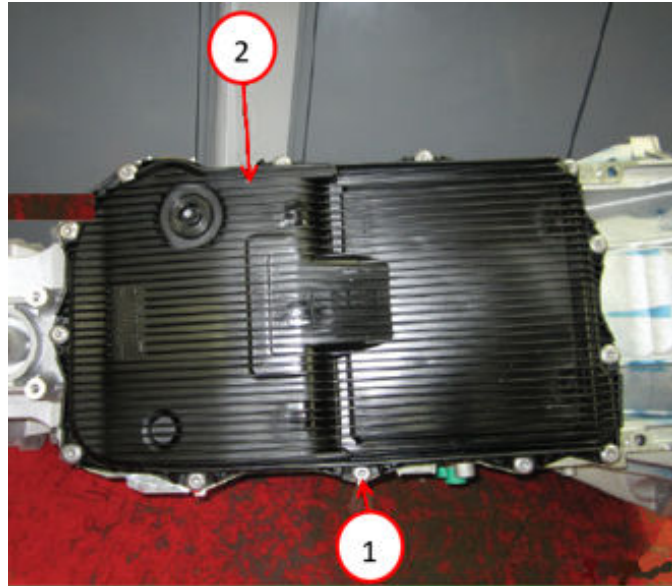

Fig. 50
76. Position the new output shaft seal over the output shaft and against the transmission case Fig. 50.